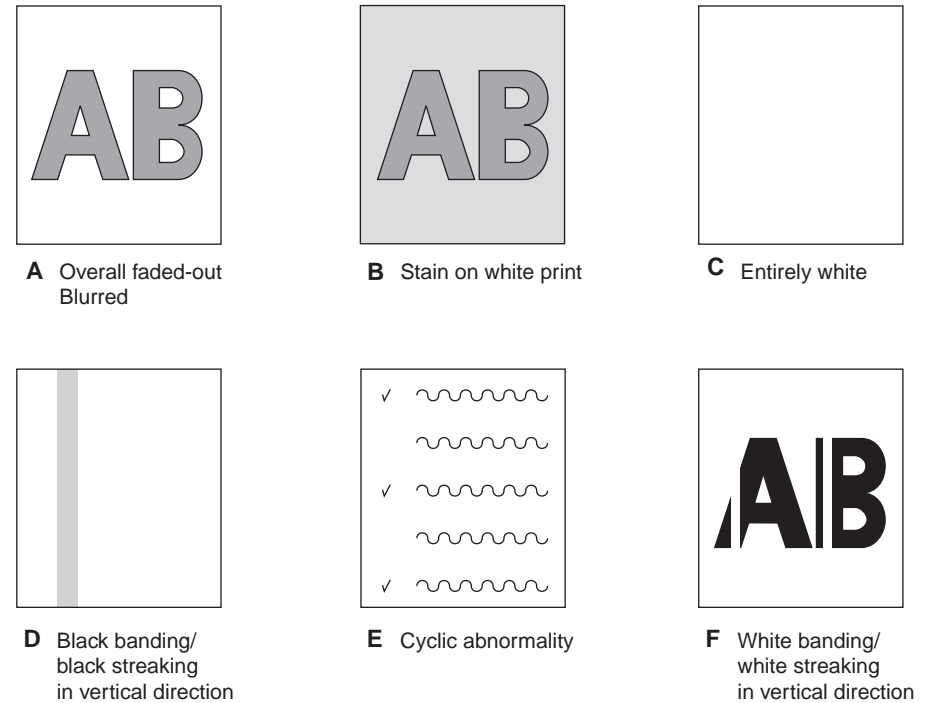

Figure 7-2
**7.5.3.(1) Color has faded-out and blurred entirely. (Refer to Figure 7-2 A.)**
**7.5.3.(2) Stain on white print (Refer to Figure 7-2 B.)**
**7.5.3.(3) White print (Refer to Figure 7-2 C.)**
(4-1) Thin vertical line (with color) (Refer to Figure 7-2 D.)
(4-2) Thin vertical line (without color) (Refer to Figure 7-2 F.)
**7.5.3.(5) Cyclic abnormality (Refer to Figure 7-2 E.)**